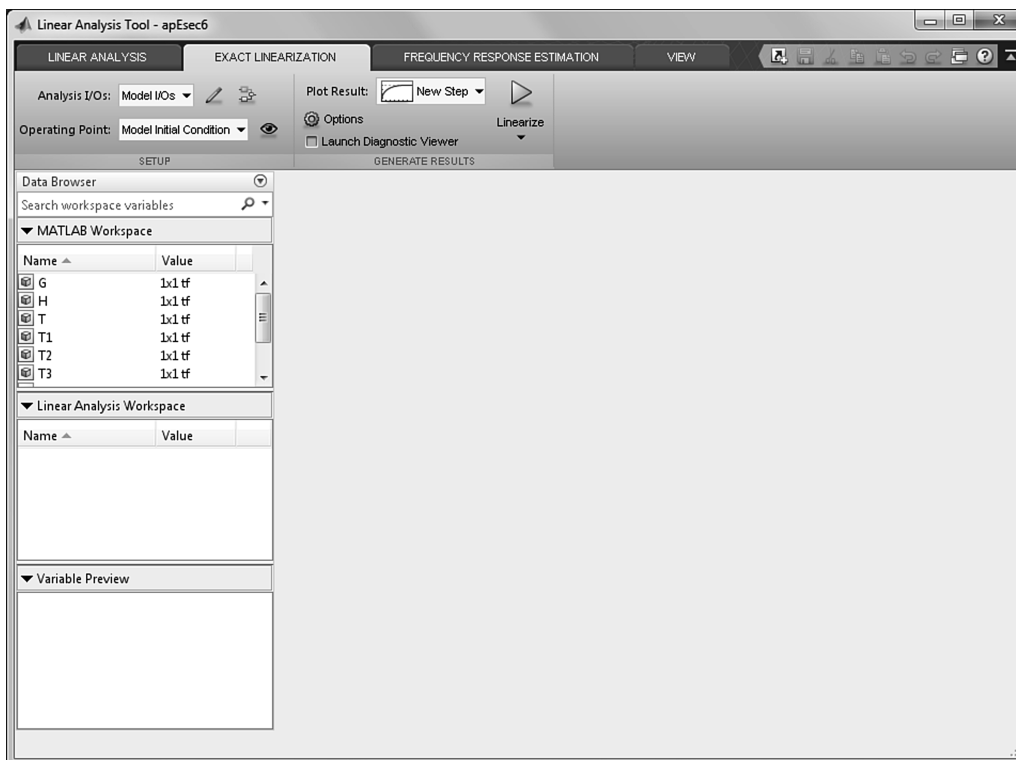

FIGURE E.8 Linear Analysis Tool window
3. **Linearize the model** Under the **Analysis** menu select **Control Design** followed by **Linear Analysis ...**. In response, **MATLAB** opens the **Linear Analysis Tool** Window, Figure E.8. Select the **Exact Linearization** tab followed by pressing the **Linearize** green arrow on the **Toolstrip**.